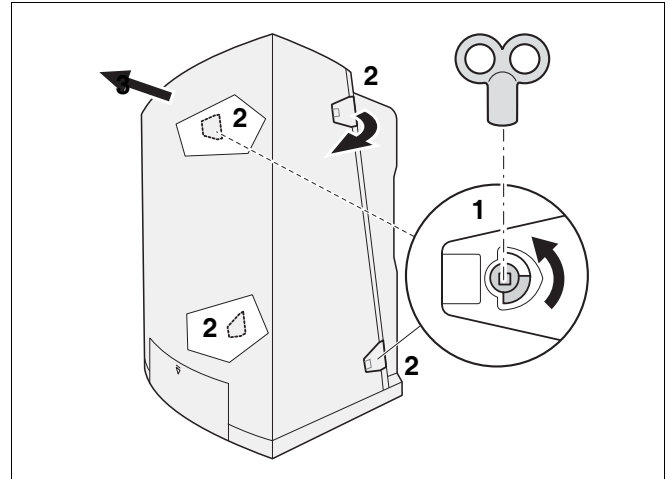

Fig. 7 Removing the casing
- Use the radiator key to unlock the two latches a quarter turn (fig. 7, pos. 1).
- Open the latches (fig. 7, pos. 2).
- Remove the casing by lifting it upwards and then pulling it forwards (fig. 7, pos. 3); do not hold the casing by the latches.